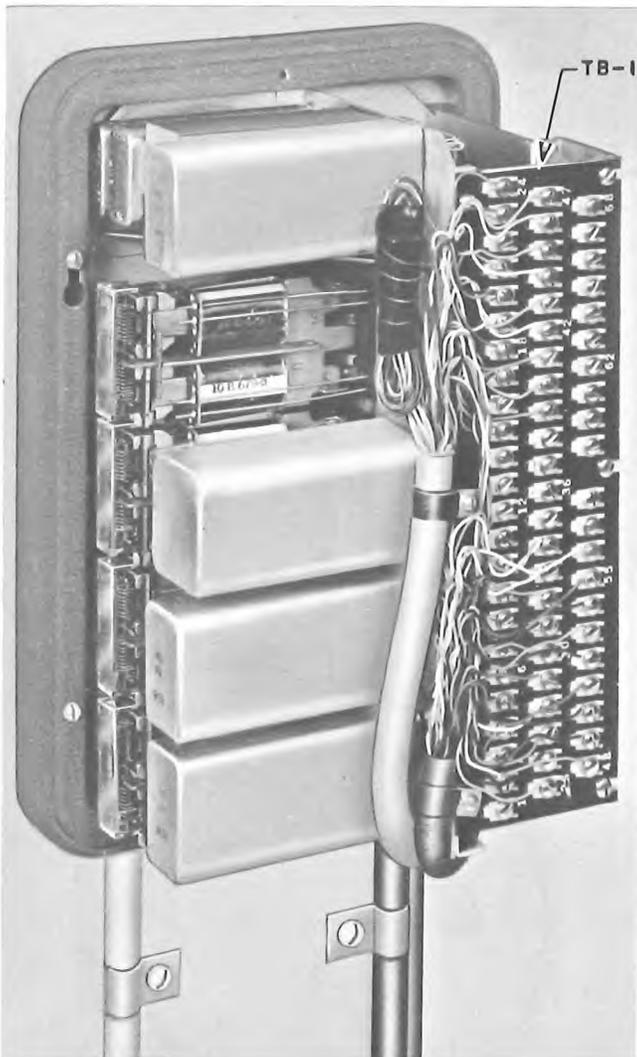

Fig. 2 — 53A Control Unit
3.05 A 53-type control unit measures 7-9/16 by 11-9/16 by 5-15/16 inches. The 53A and 53B are similar in appearance. The 53B control unit has two additional relays, the *PE1* and *PE2*. (See Fig. 2 and 3.)